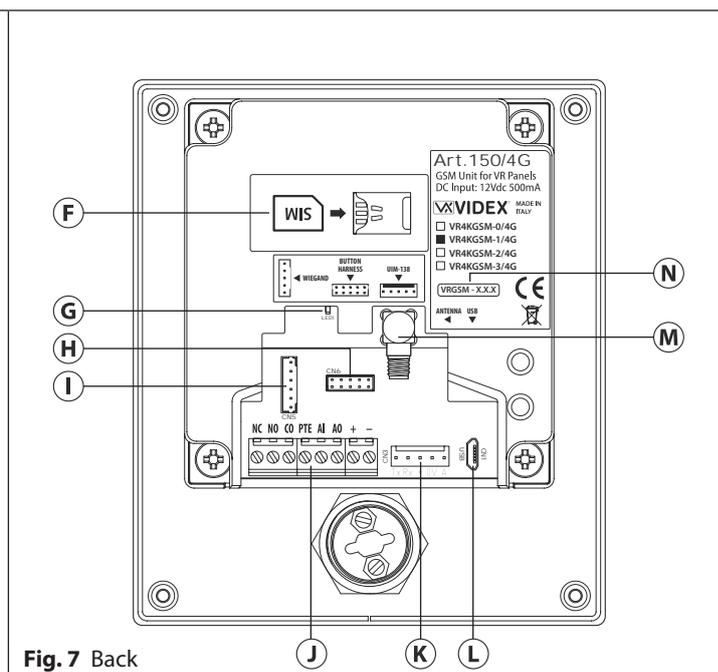

Fig. 7 Back
The micro-USB connection (**Fig.7**, (L)) allows the VR4KGSM/4G module to be connected to a laptop/PC for ease of programming (refer to page 24 for connecting the GSM module to a laptop/PC). Further information on programming using the GSMSK PC software can be found in the following manual GSMSK_66251720-EN_V2-2 (or later).
The UIM-138 connection (**Fig.7**, (K)) allows the VR4KGSM/4G module to be connected to the display interface module, the VR4KDM, see **Fig.14**, page 18 for connecting the GSM module to a VR4KDM module.
The Wiegand connection (**Fig.7, I**) allows for a Wiegand proximity reader, the **VR4KPPM**, to be connected to the **VR4KGSM/4G** module, see **Fig.16**, page 19. Further information on programming proximity fobs/cards can be found on pages 46 - 48 of this manual.
The button harness connection (**Fig.7, H**) allows for the pre-wired button harness to be connected directly to any onboard VR buttons on the **VR4KGSM/4G** module and/or **VR4K series** button modules (described on pages 6 and 7). For complete button harness wiring refer to **Fig.3** and the button harness table on page 7.